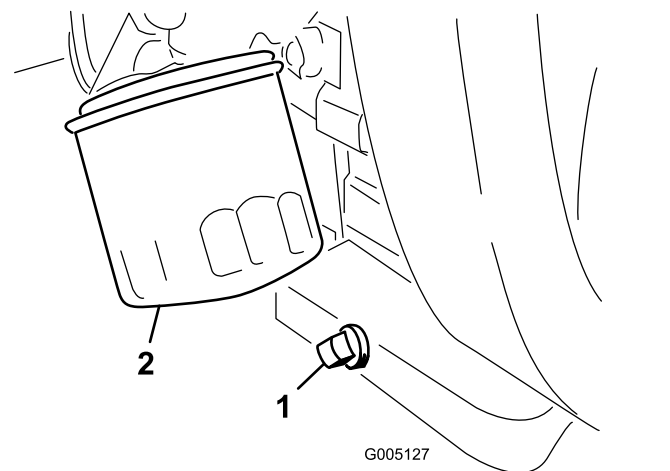

Figure 29
1. Remove the drain plug (Figure 29) and let the oil flow into a drain pan.
- Clean the threads of the drain plug, apply PTFE sealant, and install the drain plug (Figure 29).
- Remove the oil filter (Figure 29).